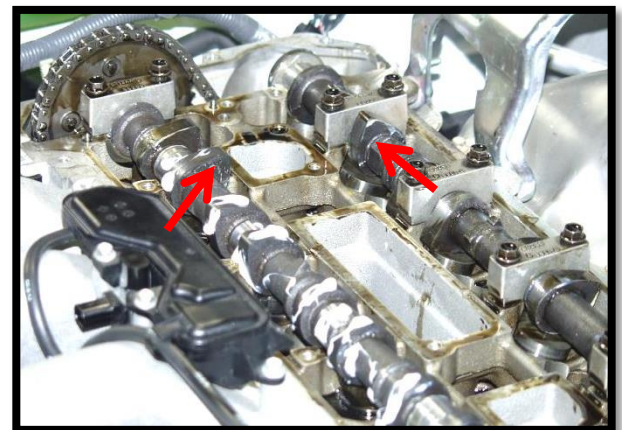

Figure 5c
- c) **Thoroughly lubricate both camshafts journals and lobes with engine assembly lube** and place them into the head with the #1 lobes (red arrows) facing upward and towards each other (Figure 5c).